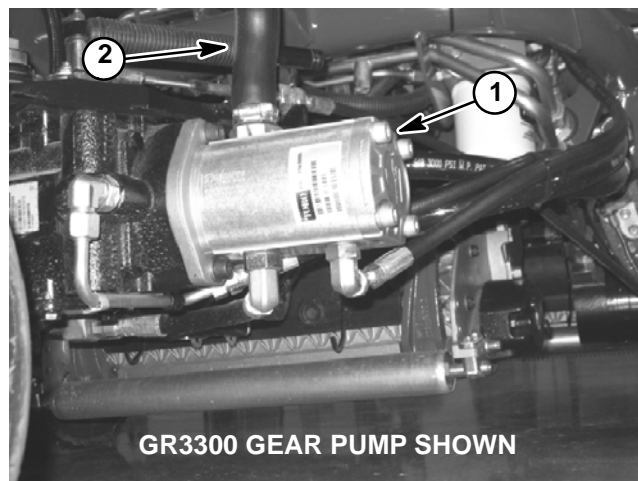

Figure 36
2. Clean area around gear pump suction (inlet) hose (Fig. 36). Clamp pump inlet hose. Remove inlet hose from gear pump, release clamp and drain reservoir into a suitable container. Drain entire hydraulic system while making sure lift cylinders, hydraulic hoses, hydraulic tubes and all other components are drained from low points while the system is warm.
9. Turn ignition key switch and engage starter for ten (10) seconds to the prime pump. Return ignition switch to off and wait one (1) minute to allow starter to cool. Repeat step a second time.